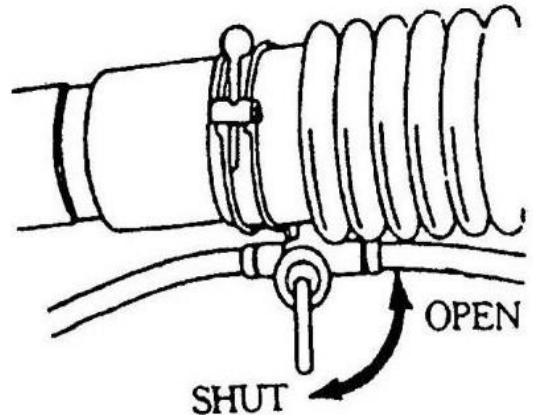

Fig. 8
- 1) While spraying, turn off the unit to add more chemical to the tank, see Fig. 8. While spraying, the spray lever and fuel tank lid should be in the down position, otherwise chemicals will leak out.